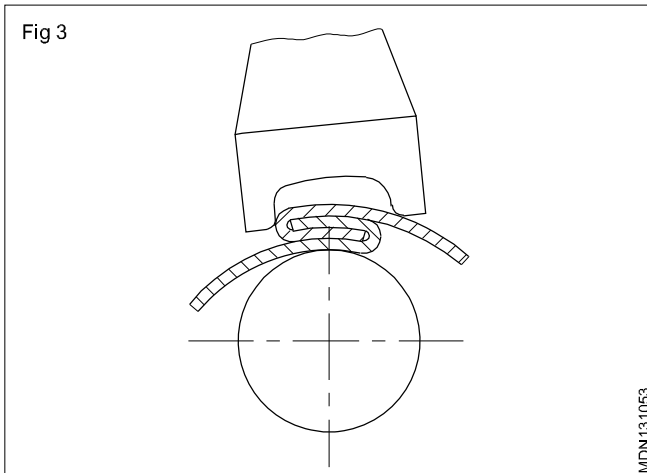

Fig 3
Double hem (Fig. 3)
Allowance for paned down and knocked-up joints (Figs 3 & 4)
Closing and locking (Figs 3, 4 & 5)
a) Blanking (Fig 3): Blanking is an operation of producing a flat component from a strip of sheet metal. The metal cutout is the required component and the sheet with the cut on the die is the scrap. In blanking, the size of the blank is governed by the size of the die and the clearance is left on the punch.
While performing a bend, if the inside of the sheet is not rounded, the outside of the sheet will be much pulled. In order to avoid it, the sheet is often bent after providing the radius as shown in the (Fig 3).